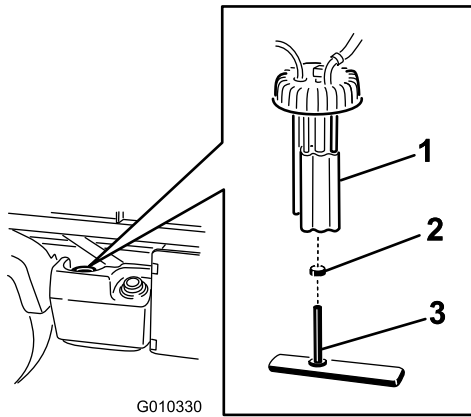

Figure 38
2. Unplug the wire-harness connectors from the fuel pump (Figure 38).
3. Loosen the hose clamp and disconnect the fuel line from the fuel-pump cap (Figure 38).
4. Remove the fuel-pump cap from the top of the fuel tank (Figure 38).
5. Remove the fuel-pump assembly and the fuel filter from the tank (Figure 38).
7. Remove the hose from the fitting (Figure 38).